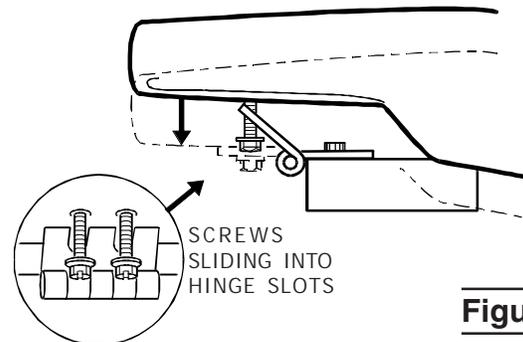

Figure 2
5. Rotate the hinges down toward the hex screws while allowing the screws to slide into the slots in the hinges (See Figure 2). Tighten the screws using a screwdriver or 3/8 inch socket.